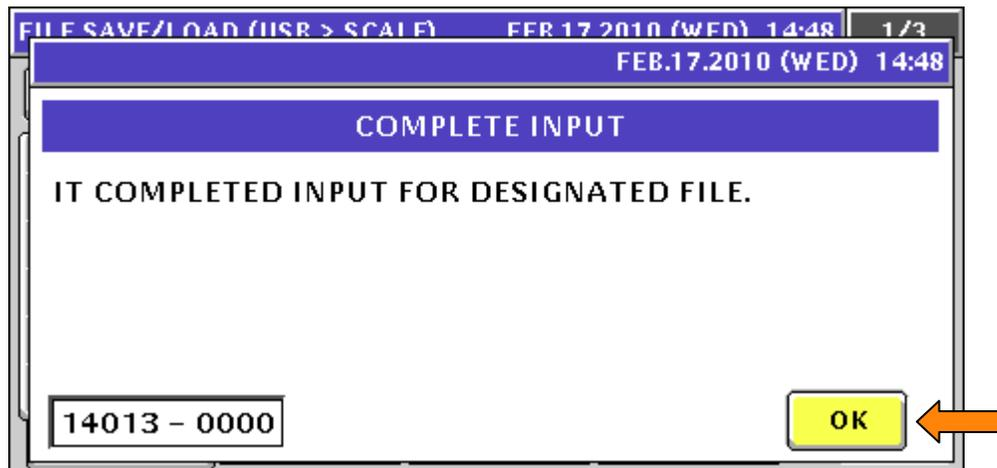

Figure 6.8. Input from USB Memory Stick Complete Confirmation
14. Press **OK** when backup is complete (message 14013-0000). See Figure 6.8.